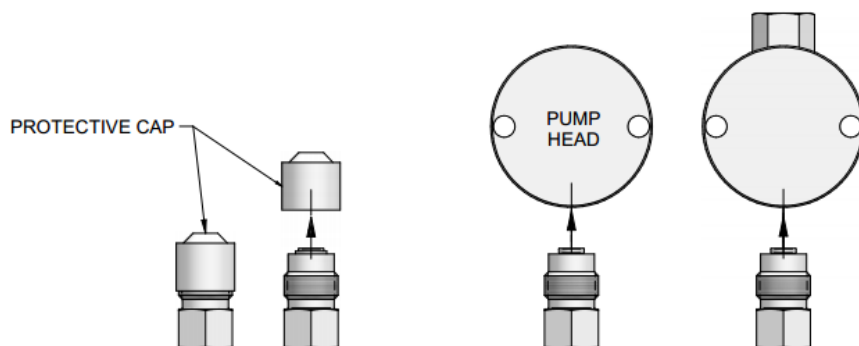

Figure 10, New Check Valves from package and proper orientation.
If this procedure does not return the pump to proper performance, the check valves should be replaced. An example of new check valves from their package can be seen in *Figure 10* below.
3. Hold one new check valve assembly as shown in *Figure 10*, and unscrew the protective cap. With the check valve assembly maintained in the above position, thread it into the proper pump head port until it is snug. Install the other check valve assembly similarly.